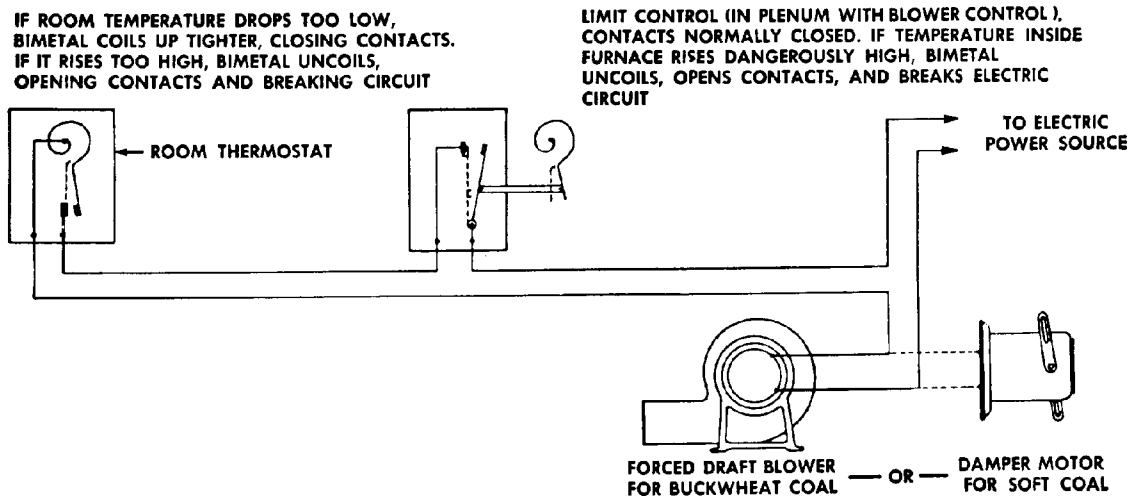

Figure 7-3. Coal furnace primary control wiring.
a. The common type of hand fired primary control, except where anthracite buckwheat blowers are used, is the electrically operated damper motor. In some instances a spring return motor will be used, but more frequently the electric return type will be found. The latter rotates the lever arm shaft 180 degrees to open and rotates the lever arm shaft another 180 degrees to close the damper. The spring return type rotates around 60 degrees to open, and closes by moving the arms in the opposite direction under action of a heavy external spring. It is common practice that a damper motor have a basement switch whereby the dampers can, when desired, be manually opened and closed. On buckwheat fired furnaces and boilers, the thermostat starts the blower or forced draft fan when heat is wanted. Figure 7-3 shows a typical wiring diagram for a hand fired furnace primary control.